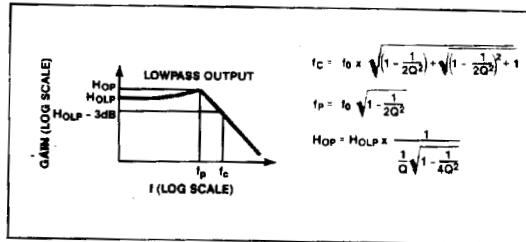

Figure 2. Lowpass Filter Terminology
- H_{OLP} : The gain in V/V of the lowpass output as $f \rightarrow 0$ Hz. See Figure 2.